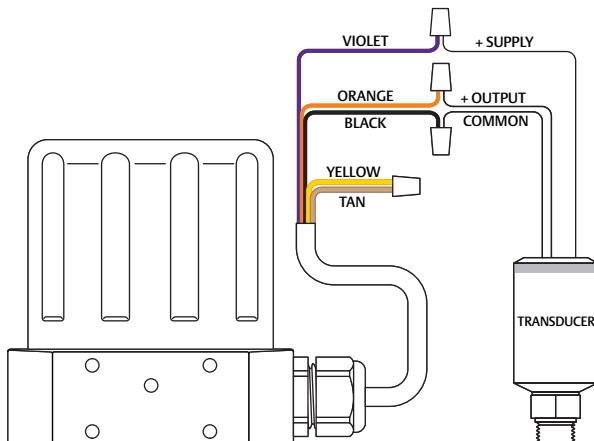
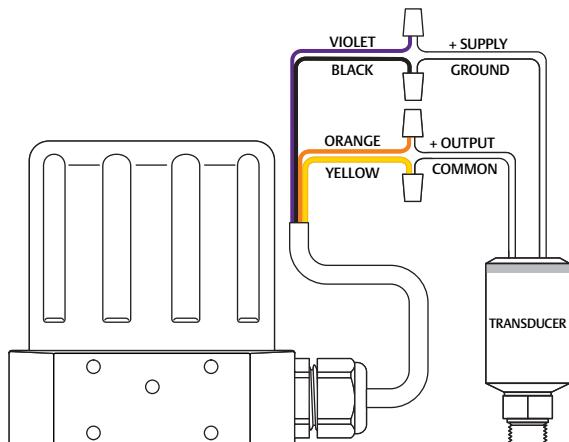
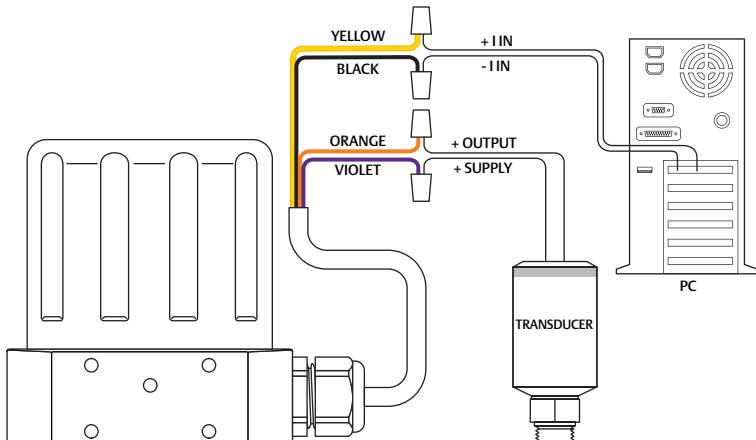

Figure 32: Three Wire Transducer Wiring
Figure 33: Four Wire Transducer Wiring
Figure 35: Monitor 4–20 mA External Feedback (Ground Referenced Input)
The correct wiring for three wire transducers is shown in Figure 32.
The correct wiring for four wire transducers is shown in Figure 33.
Figure 35 show how the feedback signal can be monitored using an A/D card in the PC or a PLC. The feedback signal can, alternatively, be monitored through the USB connection between the ER5000 and the PC by reading variable #44 (ID\_FEEDBACK).
**NOTE** The wiring shown in Figure 35 is for a two wire transducer. Refer to Figure 32 and Figure 33, respectively, for correct wiring of three wire and four wire transducers.